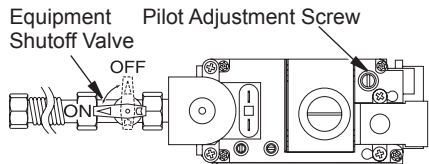

Figure 42 - Turning Equipment Shutoff Valve to the OFF Position
5. Turn equipment shutoff valve clockwise  to the OFF position (see Figure 42). Do not force.
6. Wait five (5) minutes to clear out any gas. Then smell for gas, including near the floor. If you smell gas, **STOP!** Follow "B" in the safety information in column 1. If you don't smell gas, go to the next step.
- Turn the adjustment screw marked PILOT clockwise to decrease or counterclockwise to increase the flame to proper size (see Figure 42, page 28). Do not remove the adjustment screw.